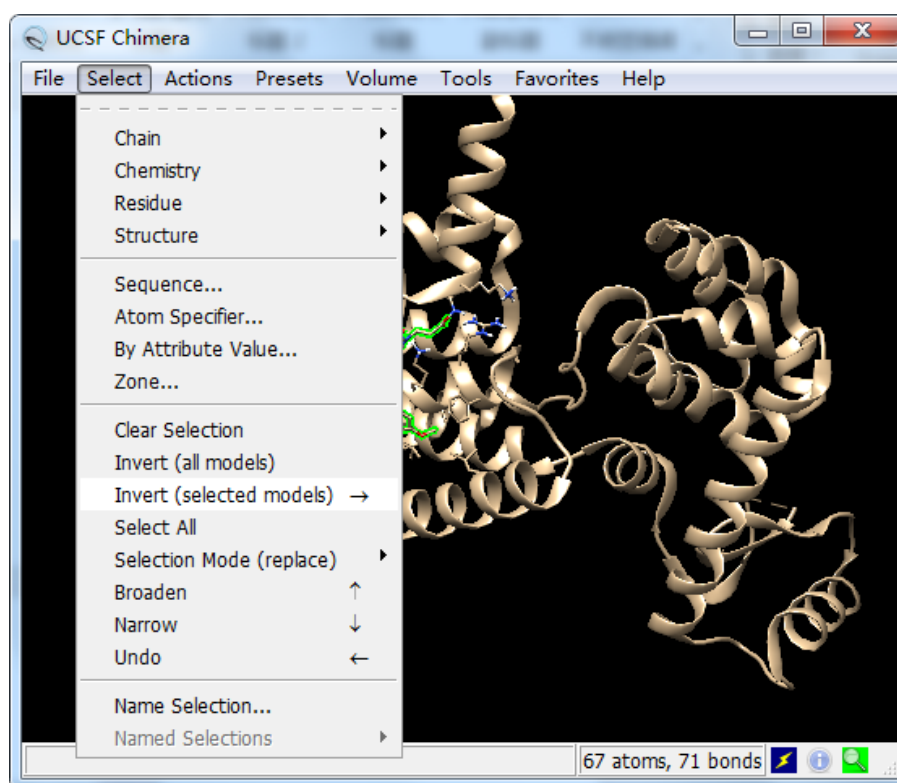

Figure 11. Inverting selected ligand 5MV.
2. Invert (select models): invert select ligand 5MV (see Figure 11):